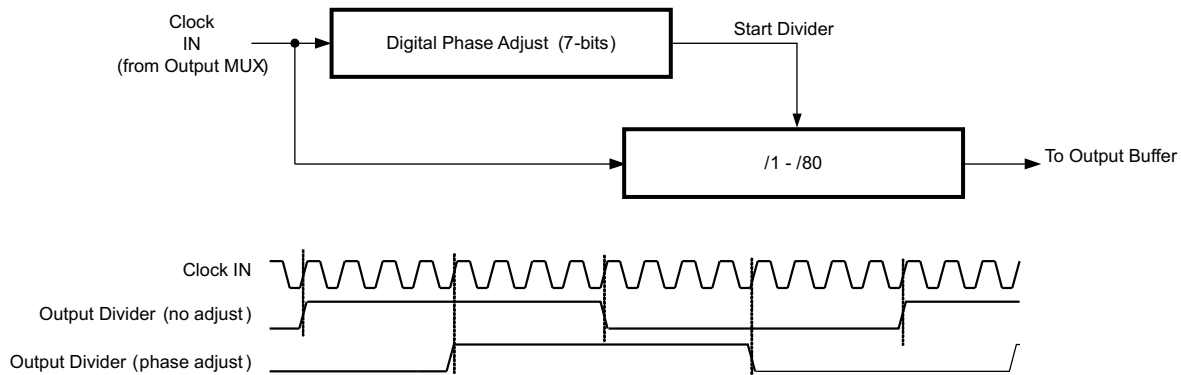

Figure 31. CDCE62005 Phase Adjust
Figure 31 provides an overview of the Digital Phase Adjust feature. The output divider includes a coarse phase adjust that shifts the divided clock signal that drives the output buffer. Essentially, the Digital Phase Adjust timer delays when the output divider starts dividing; thereby shifting the phase of the output clock. The phase adjust resolution is a function of the divide function. Coarse phase adjust parameters include:
- **Number of Phase Delay Steps** – the number of phase delay steps available is equal to the divide ratio selected. For example, if a Divide by 4 is selected, then the Digital Phase Adjust can be programmed to select when the output divider changes state based upon selecting one of the four counts on the input. Figure 31 shows an example of divide by 16 in which there are 16 rising edges of Clock IN at which the output divider changes state (this particular example shows the fourth edge shifting the output by one fourth of the period of the output).